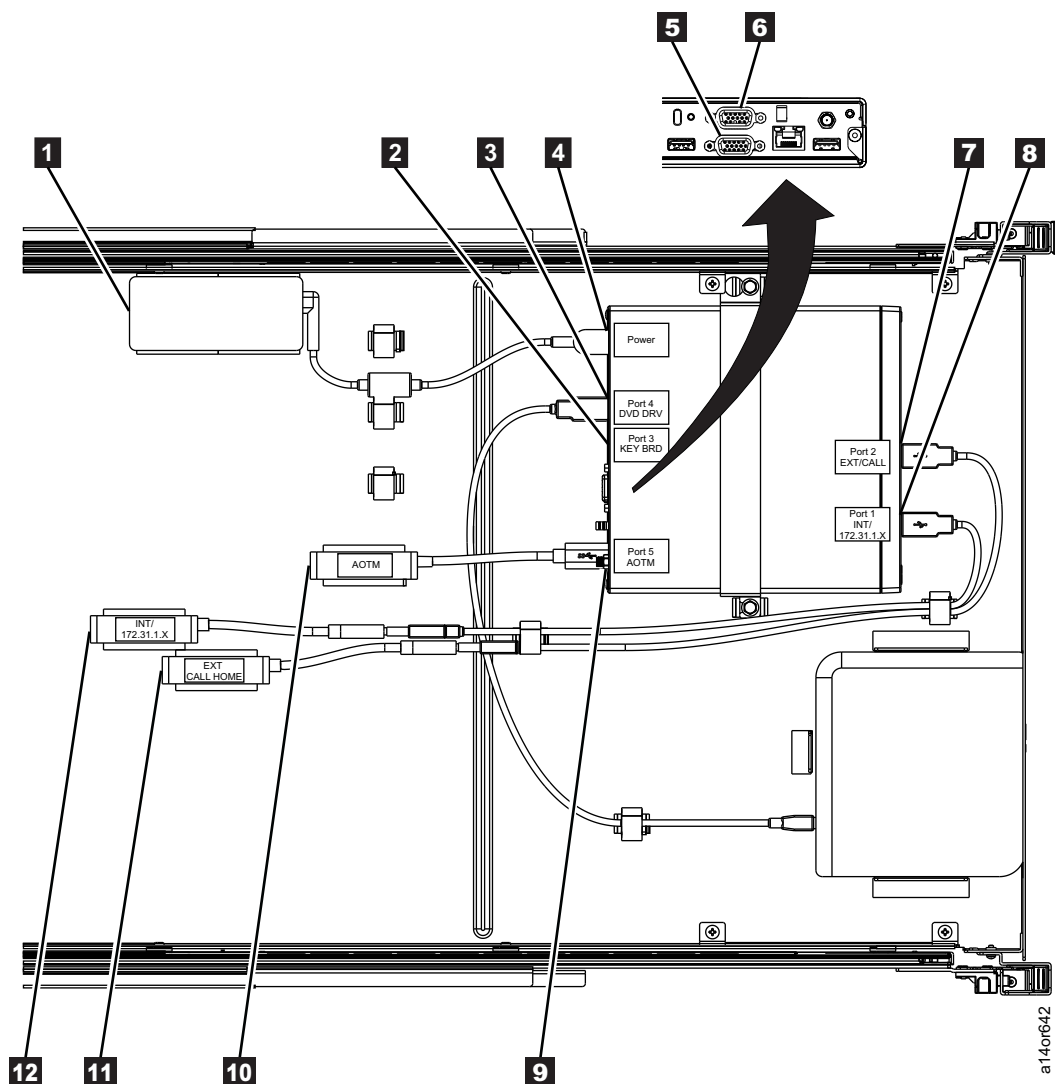

Figure 18. Cabling for the TSSC server, FC 2725
- For TSSC FC 2725, refer to Figure 18.